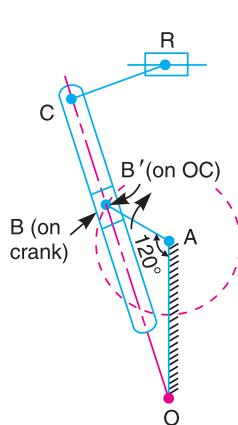

Fig. 7.38
8. Fig. 7.38 shows the mechanism of a quick return motion of the crank and slotted lever type shaping machine. The dimensions of the various links are as follows :